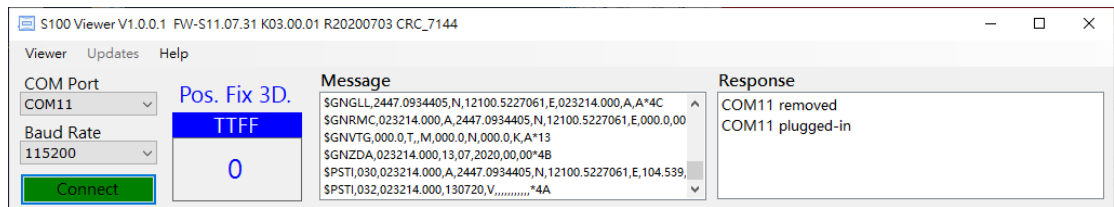

Figure 3-4
5. On a PC, install and open S100 Viewer. In S100 Viewer, a dialog box for COM port and baud rate will appear. Click “Connect”. See Figure 3-4.